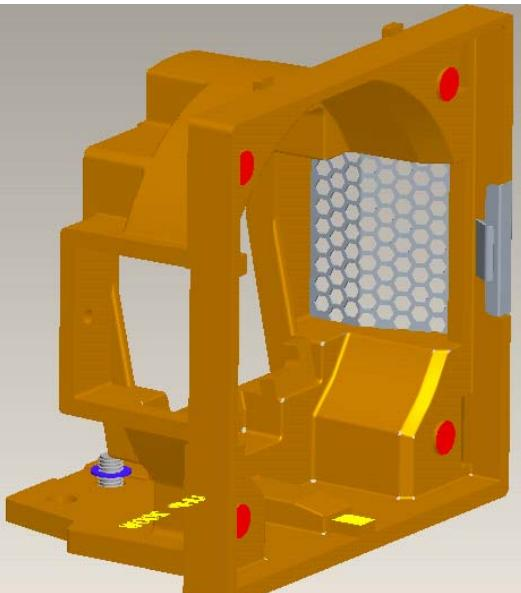
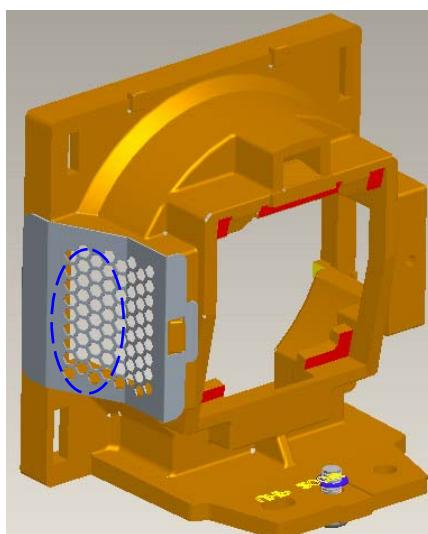

Fig. 1-2
Fig. 1-3
- II. Assemble “MESH” with Lamp holder .Mesh hooks HLD Lamp first (Fig. 1-2) and press it assemble to the right position (Fig. 1-3).